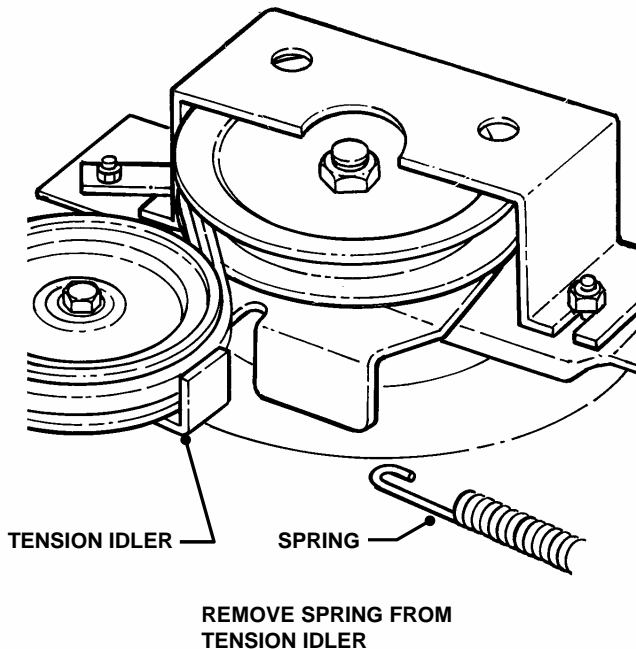
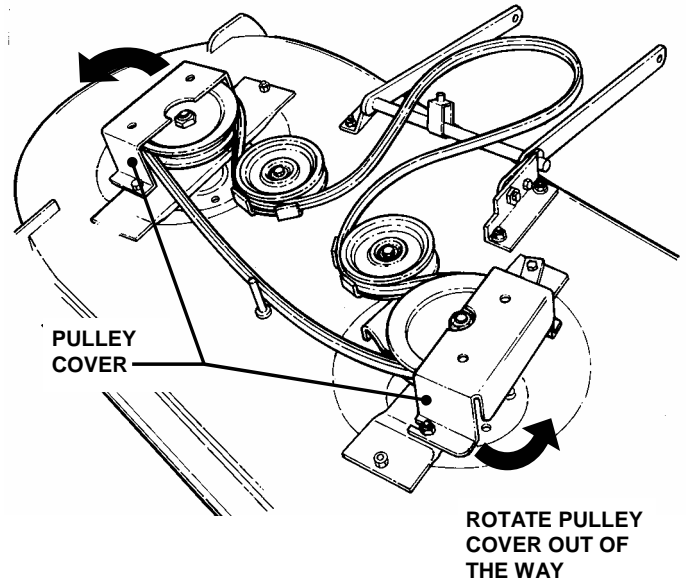

FIGURE 4.32
FIGURE 4.33
4. Remove deck idler tension spring. Loosen bolts that secure the end of the spindle pulley covers and rotate cover around out of the way. See Figure 4.32 & Figure 4.33.